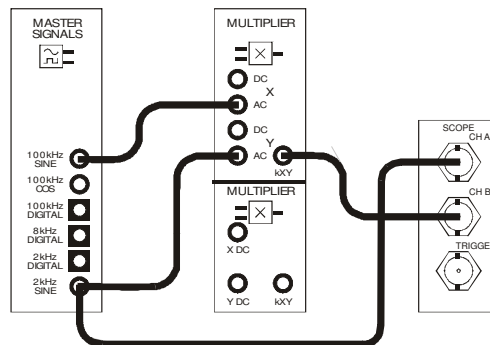

Figure 1
5. Connect the NI ELVIS to the NI Data Acquisition unit (DAQ) and connect that to the personal computer (PC).
13. Connect the set-up shown in Figure 1 below.